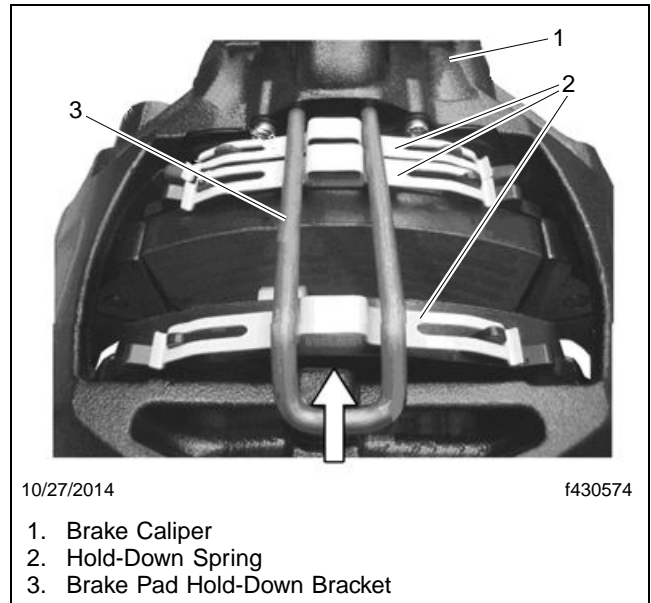
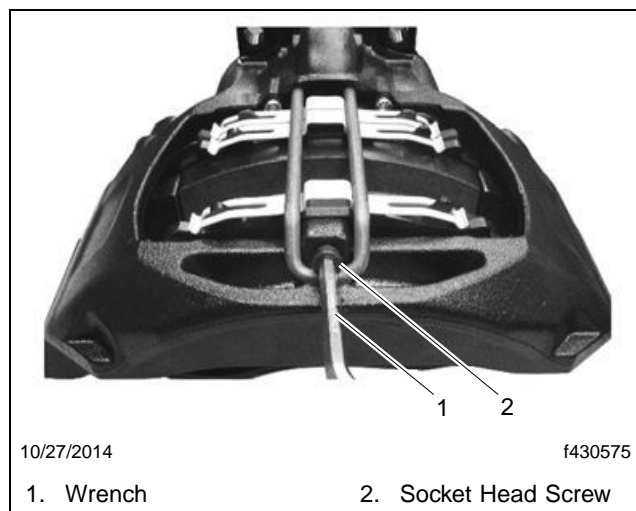

Fig. 12, Installing Hold-Down Springs and Bracket
Fig. 13, Tightening the Hold-Down Bracket
39. Install a new brake pad hold-down bracket, pressing down against the brake caliper, so the bolt can be installed. See **Fig. 12** and **Fig. 13**. Tighten 22 to 33 lbf-ft (30 to 45 N-m).